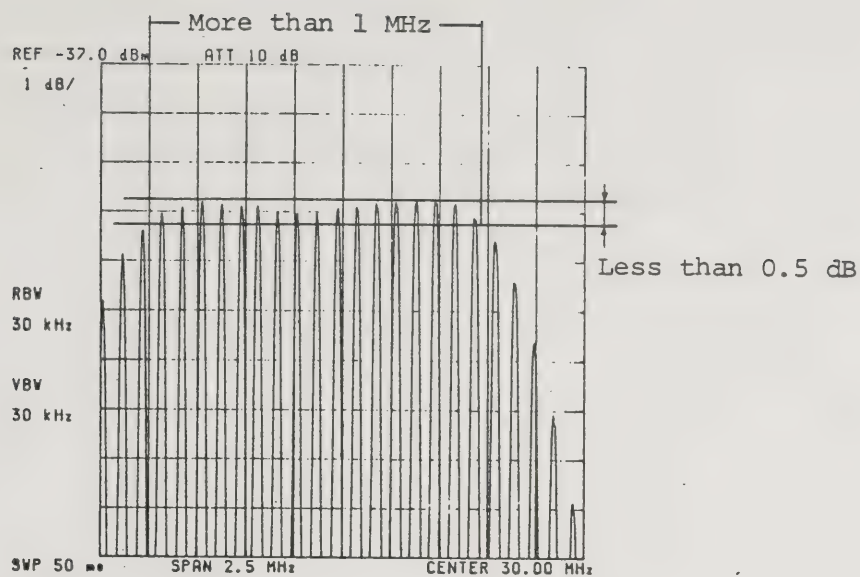

Fig. 11-55 30 MHz (three stage) B.P.F. adjustment
- (d) Using the external spectrum analyzer with the high impedance probe, observe the signal response at the connection between C355 and C356. Press , then use the DATA knob to change the Step FM setting. Adjust C342, C343, and C344 so the observed 30 MHz (three stage) B.P.F. response has a 1 MHz 0.5 dB bandwidth and a maximum level of about 30.00 MHz is attained. (See Figure 11-55.) Step FM will change in 2 kHz steps. If a smaller frequency stepping is desired, press c.